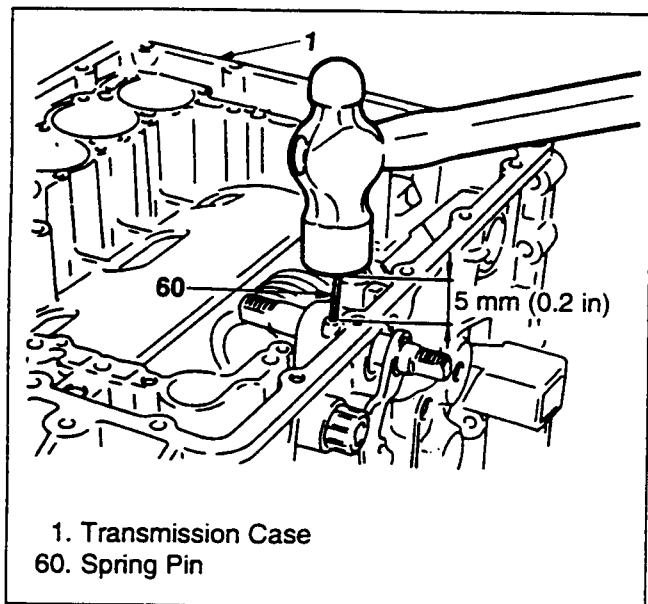

Figure 236. Manual Shaft Installation (2)
3. Drive the spring pin into the shaft groove with a hammer (figure 236).